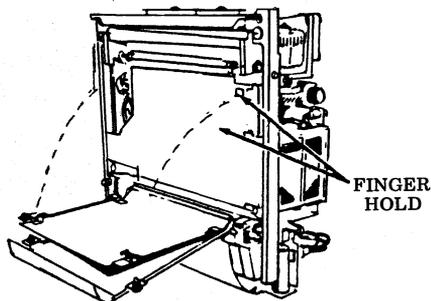

Fig. 9—Circuit Card Removal
- 5.03 Remove two screws that secure circuit card cover to the bottom of the printer and allow cover to hang down (Fig. 9).
- 5.04 Using finger hold and a firm grip of the card edge on opposite side as shown in Fig. 9, apply an even pulling force and unplug card from the two rows of magnet assembly contacts.